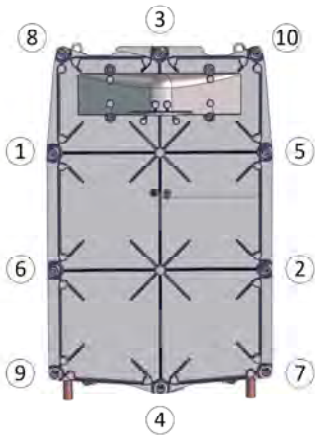

Figure 40: Tighten hex bolts in cross pattern direction.
2. Place the heat exchanger cover onto the heat exchanger and loosely install the 6mm Allen bolts and lock washers removed in step 6. Tighten the 6mm Allen bolts in a cross pattern as shown in the *Figure 40*.